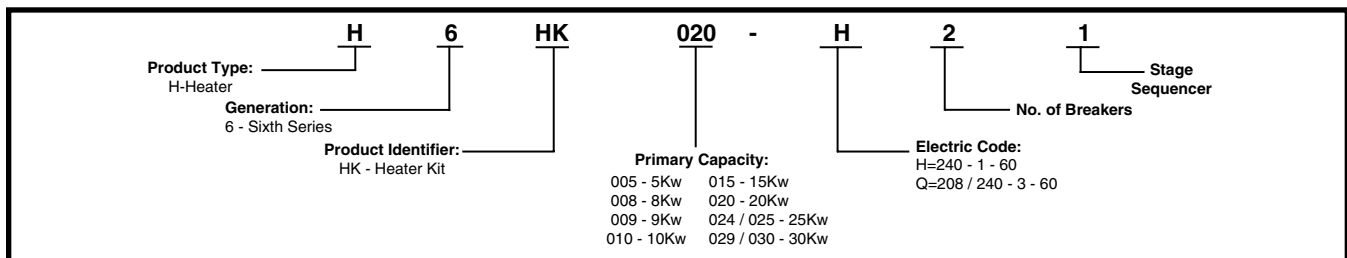

Figure 1. Heater Kit Identification Code
- The 20, 24/25, and 29/30 kw electric heater kits are NOT approved for installation in A-cabinet air handlers. The 25Kw & 30Kw kits are for B5 C-cabinet air handlers. The 24 & 29 Kw kits are for B6, MB7, HMG, HMB, & HCG C-cabinet air handlers. Use the model identification code (Figure 1, page 2) and